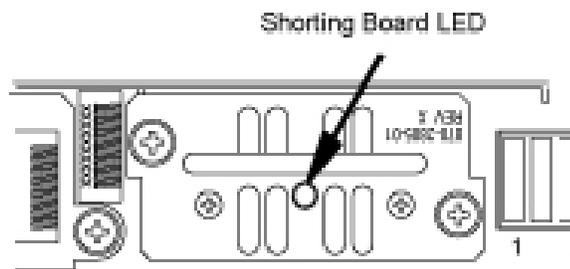

Figure 3: Shorting Board Faceplate, Maintenance Mode
4. Turn the Shorting Board over and reinsert the board into its slot. Note the orientation of the Shorting Board LED (see Figure 3: Shorting Board Faceplate, Maintenance Mode).